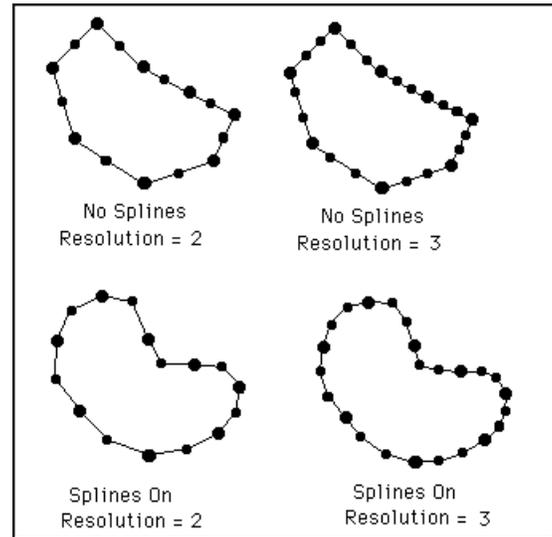

Figure 8.9. How various settings effect of the final shape.
4) The resolution  $r$  is used to convert each curve segment from step 3 into a sequence of line segments:  $r+1$  vertices are evenly spaced (by curve length) along the curve segments. The vertices are connected by  $r$  line segments. This is the **final shape** (Fig. 8.9).